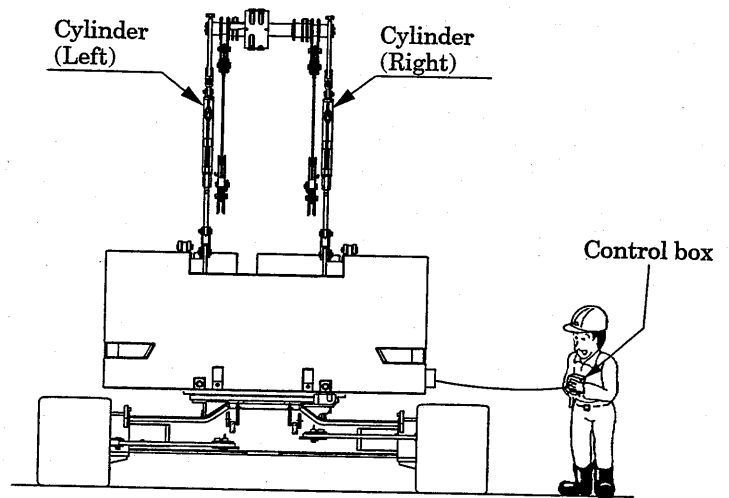
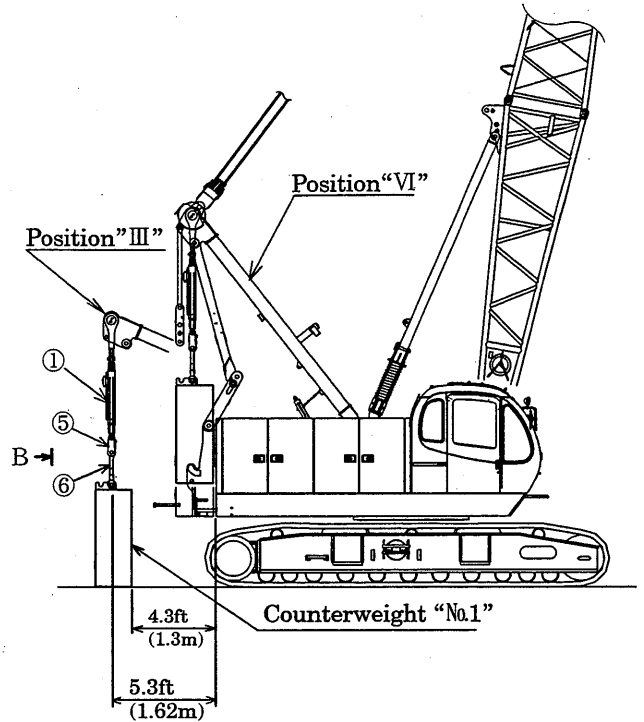
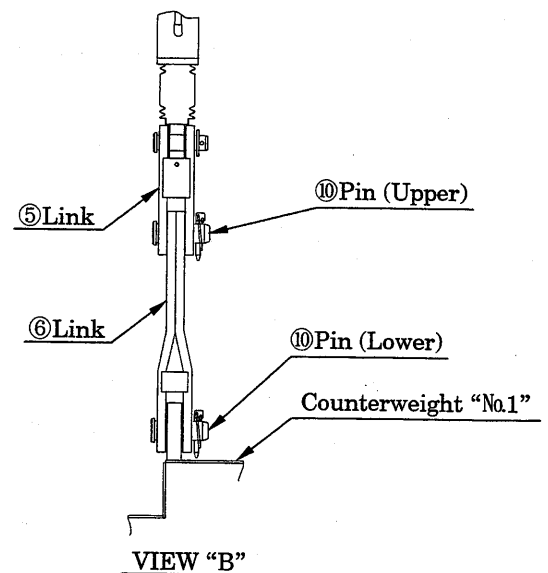

Fig 10-9
Fig 10-9A
Fig 10-9B
10.2.1 PRECAUTION FOR OPERATING CONTROL BOX (FIG.10-9, FIG.10-9A)
- (1) The engine should be at a low speed (Approx. 1000 rpm) during operation.
- (2) Activate the power switch of the control box only when operating the lift cylinders ①.
- (3) Operate the right and left lift cylinders ① separately with the control box, while keeping a balance of right and left.
10.2.2 INSTALLATION OF COUNTER-WEIGHT NO.1 (FIG. 10-9A, FIG. 10-9B, FIG. 10-10)
(1) Place the machine so that the rear end of the deck is approx. 4.3 ft (1.3 m) apart from the counterweight No. 1. Then, fully retract the right and left lift cylinders ①, and set the gantry as per the "Position III" shown in the right figure by boom lowering operation (Fig. 10-9A).
(2) Connect the link ⑥ and the link ⑤ with the pin ⑩ (Fig. 10-9B).
(3) Connect the link ⑥ and the counterweight No. 1 with the pin (lower) ⑩ (Fig. 10-9B).
(4) Raise the gantry by boom raising operation so that the gantry is as per the "Position VI" shown in (Fig. 10-9A).
(5) Lower the counterweight No. 1 onto the swing frame by operating the control box, while keeping a balance of the right and left lift cylinders ① (Fig. 10-9A).